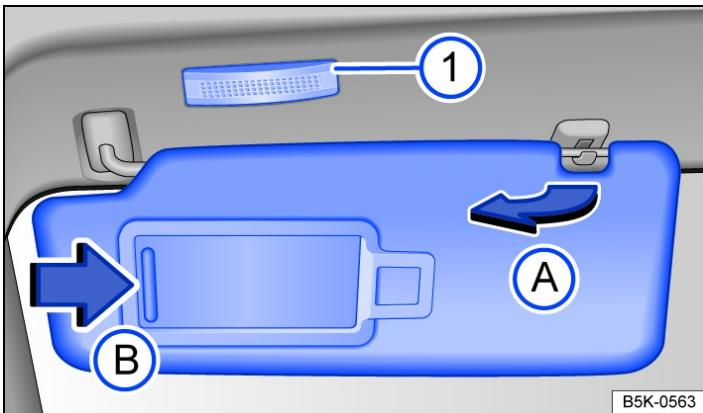

Fig. 1 In the front headliner: sun visor.
- Pulled out of the bracket and swung over towards the door → *Fig. 1 A*.
When you open the cover → *Fig. 1 B*, the lamp → *Fig. 1 1* lights up.